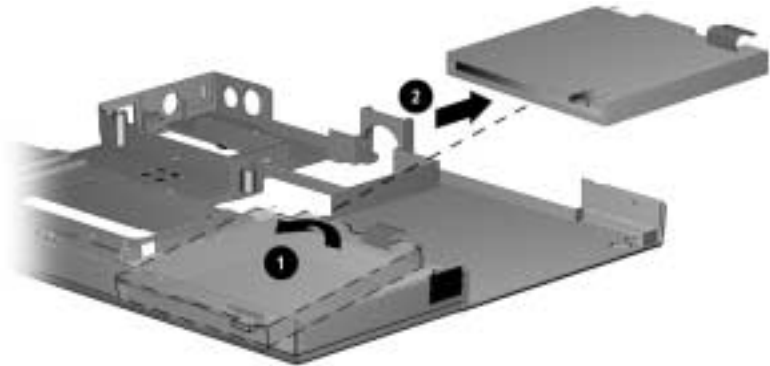

Figure 5-34. *Removing the Diskette Drive*
2. Lift the back edge of the diskette drive ❶ and swing it up and toward the front of the base assembly ❷ (Figure 5-34).